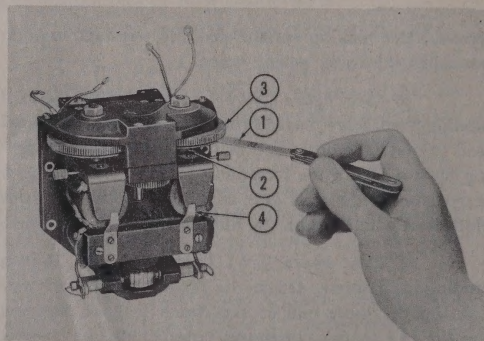

Figure 283 — Checking Clearance Between Clutch Disc and Gear Cork
4. (See figure 283.) Using a thickness gage, check the clearance between each clutch and pinion assembly (2) and the cork insert of the gear assembly (3) with which it is mated. This must be done with the torque motor in a vertical position. This clearance